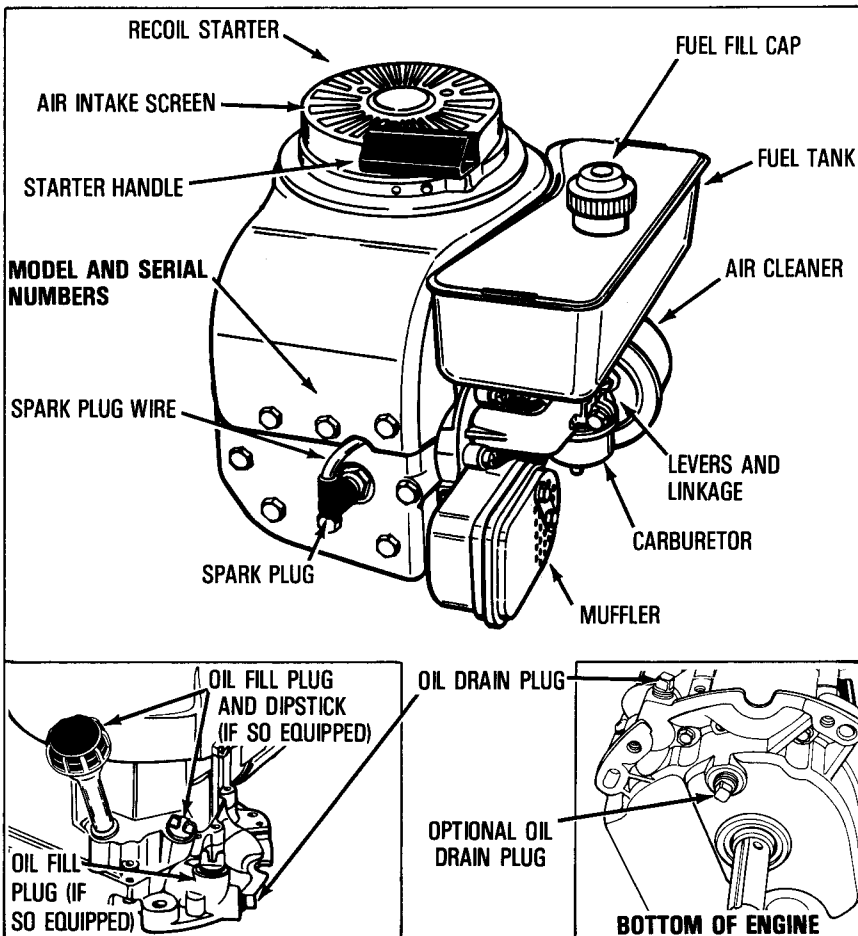

Figure 1
2. Clean area around oil fill plug (see Figure 1).
- ④ **CHECK THE FOLLOWING:**
B. Be sure spark plug wire is attached to spark plug (see Figure 1).
B. Grasp starter handle (see Figure 1) and pull rope out, slowly, until it pulls harder. Let rope rewind slowly. Then pull rope with a rapid full arm stroke. Let rope return to starter slowly.
② CHANGE OIL (see Figure 1):
B. Clean area around oil drain plug (see Figure 1).